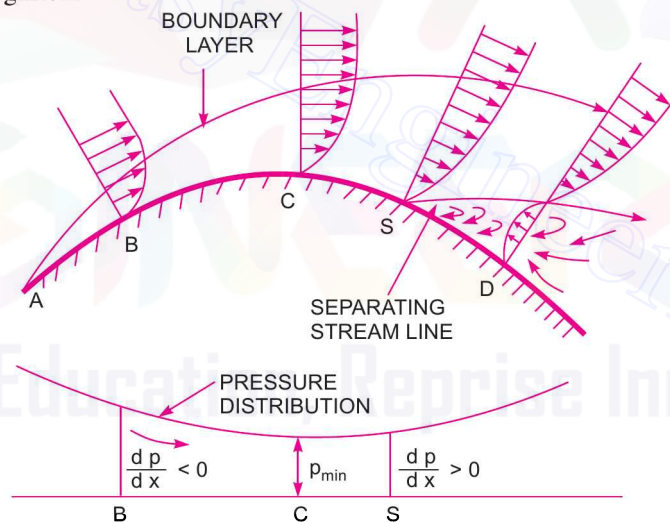

Fig. 13.7 Effect of pressure gradient on boundary layer separation.
curved surface  $ABCD$  as shown in Fig. 13.7. In the region  $ABC$  of the curved surface, the area of flow decreases and hence velocity increases. This means that flow gets accelerated in this region. Due to the increase of the velocity, the pressure decreases in the direction of the flow and hence pressure gradient  $\frac{dp}{dx}$  is negative in this region. As long as  $\frac{dp}{dx} < 0$ , the entire boundary layer moves forward as shown in Fig. 13.7.
**13.7.3 Methods of Preventing the Separation of Boundary Layer.** When the boundary layer separates from the surface as shown in Fig. 13.7 at point S, a certain portion adjacent to the surface has a back flow and eddies are continuously formed in this region and hence continuous loss of energy takes place. Thus separation of boundary layer is undesirable and attempts should be made to avoid separation by various methods. The following are the methods for preventing the separation of boundary layer :